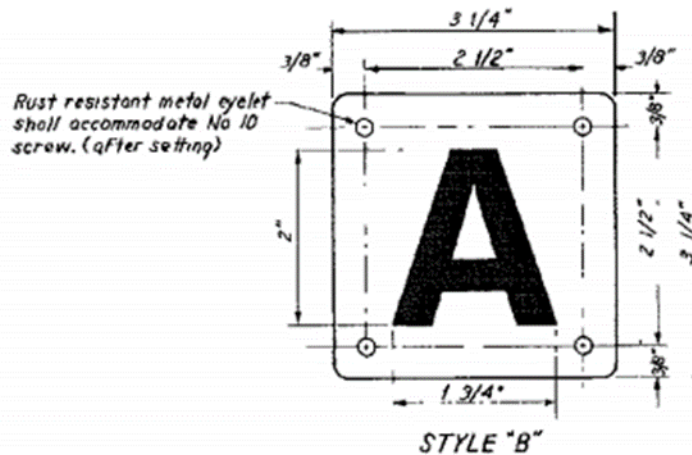

Figure 3. Example of a Bus Target Plate
3. SEE Figure 3 below for a 3 1/4-inch x 3 1/4-inch bus identification sign using #3 venetian red letters on a #1 buff background.